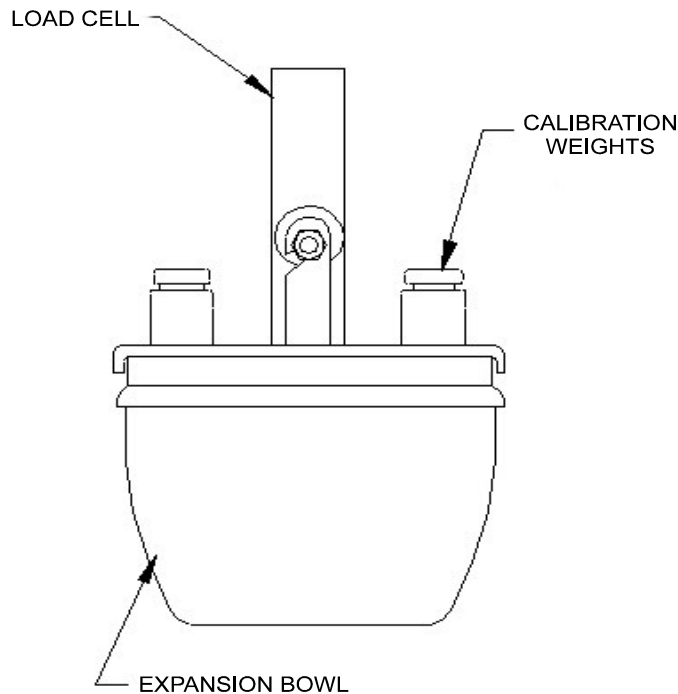

Figure 12-2
- D. Carefully place (2) 50 gram weights on the cross piece which supports the Expansion Bowls. See Figure 12-2
- C. Carefully place two 50 gram test weights on the cross piece which supports the Expansion Bowl as shown in Figure 12-2.